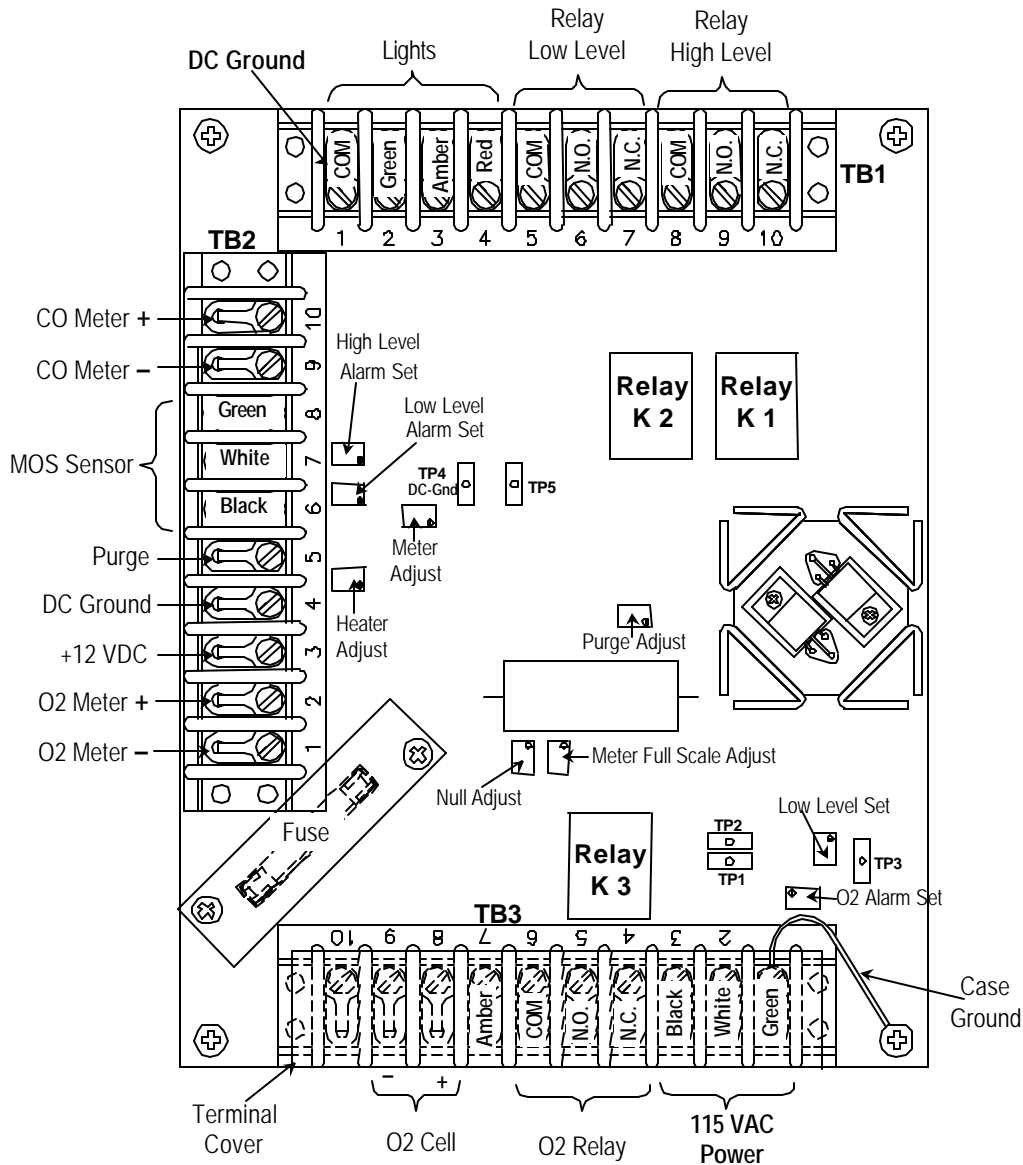

Figure 2: Circuit Board with Terminal Blocks
Figure 2 shows the circuit board and terminal blocks housed inside the hinged oiltight control unit. Specific relays and adjustments are defined:
INTERNAL RELAY CONTACTS: Relays can be used to activate an external remote alarm system when a hazardous CO level is detected. These are double-pole relays (Figure 2 upper right) with terminals "normally open"(N.O.), "normally closed"(N.C.), and "common"(COM.) (See Figure 3 and Section 4.0 for relay contact hook-up). There is one relay for each alarm level (2 alarm levels for CO, 1 for oxygen).
Refer to Figure 2
Refer to Figure 2.
2. The three terminal block positions shown in Table 1 below (TB3-4, TB3-5, TB3-6) are attached to relay K3 (see Figure 2) and are available as a switch to activate any remote alarms or equipment when the oxygen alarm triggers. This relay has a rating of 2 amps continuous, 5 amps surge at 110Vac. When power is interrupted, this relay switches to the same position as in an oxygen-deficient situation.
3. The six terminal block positions shown in Table 2 below (TB1-5 - TB1-10) are attached to the two CO alarm relays, K-1 and K-2 (see Figure 2). These positions are available as switches to activate any remote alarms or equipment when either the CO low alarm or CO high alarm triggers. These relays have the rating of 2 Amps continuous, 5 Amps surge at 110Vac. When power is interrupted, these relays switch to the same position as in a gas alarm situation.
- Apply 115 Vac and/or 12 Vdc power to the appropriate terminals (refer to Figure 2). As an emergency back-up power source, both ac and dc power can be applied at the same time. Current will flow from the ac source. DC current will flow only when the ac power is interrupted.
- While operation switch is in PURGE ON position, measure purge voltage across TB2-6 and TB2-7. It should be 1.6 Vdc +/- .03 Vdc. If not 1.6 Vdc +/- .03 Vdc, adjust Purge Adjust Potentiometer (see Figure 2) until desired reading is shown. Turn operation switch to HORN OFF position and measure sensor heater voltage across TB2-6 and TB2-7. It should now read 0.86 Vdc +/- .03 Vdc. If not 0.86 Vdc +/- .03 Vdc, adjust Heater Adjust Potentiometer (see Figure 2) until desired reading is shown. Turn operation switch back to PURGE ON position.